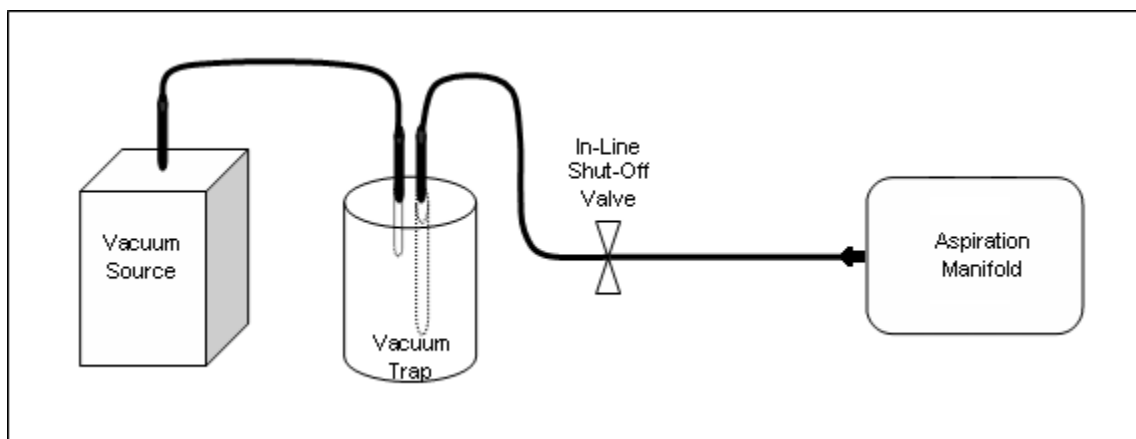
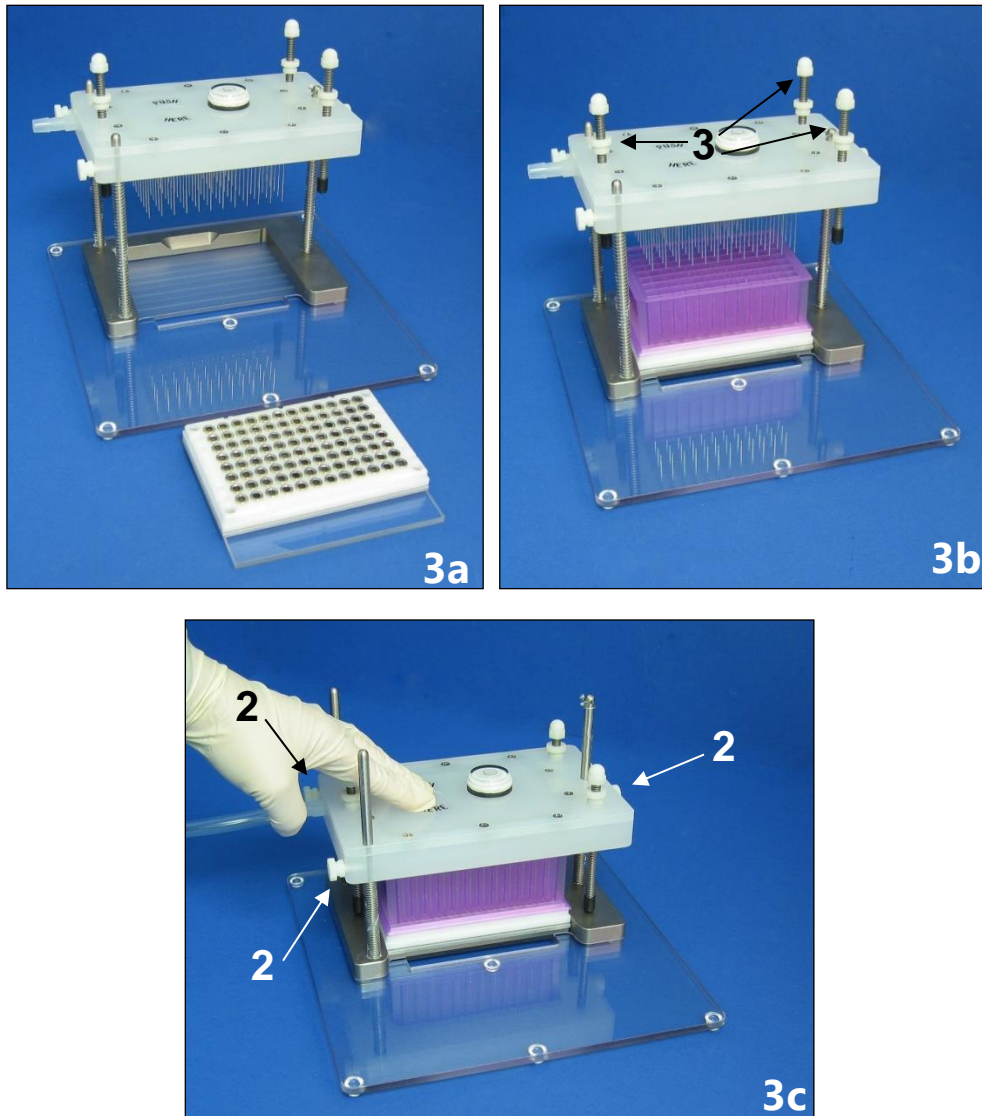

Figure 2. Connection to vacuum source.
Figure 3. Use of Spacer in Manifold Setup Part 2.
Attaching Vacuum Source (Figure 2)
1. Attach one end of a vacuum hose to the Outlet Fitting (4) on the VP 177A-1 Aspiration Manifold (Figure 3) and the other end to a shut-off valve connected to a vacuum source (Figure 2). It is recommended that a vacuum trap be placed between Manifold and vacuum source.
2. Make sure all tubes are clear by aspirating distilled water from a microplate. If any tubes are clogged use the Rapier (8) to clean them out. See "Cleanup" section for more details.
Setting Space Between Manifold Tubes and Bottom of Plate (Figure 3)